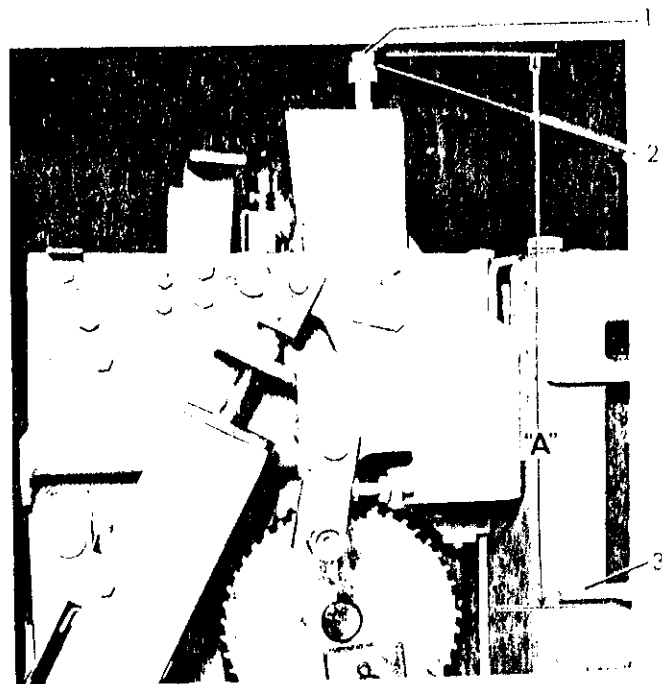

Figure 14. (8034464) Plunger Interlock
Refer to Figure 14. With the breaker in the closed position, the vertical distance "A" from the top of the plunger bolt (1) to the bottom of the breaker lifting rail (3) should be  $11-7/32"$  to  $11-11/32"$ . To change this adjustment add or remove washers (2).